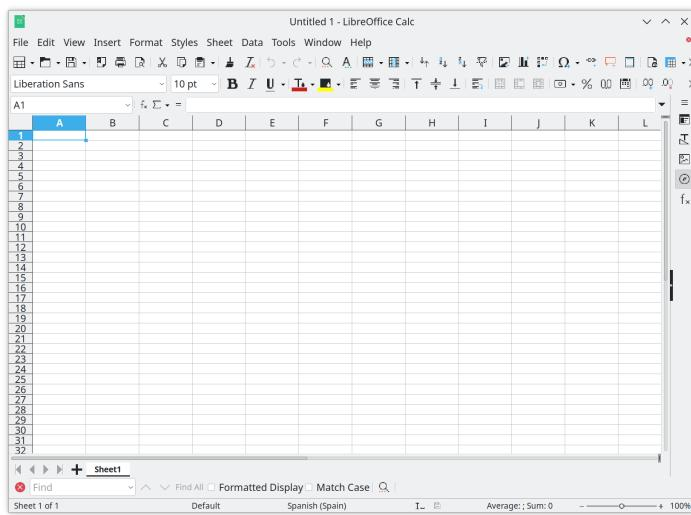

Figure 7.1: Initial state of LibreOffice
1. Launch the LibreOffice program. Upon opening, you will see the initial state of the application, as shown in Figure 7.1. A blank spreadsheet will open, where you can enter your data.